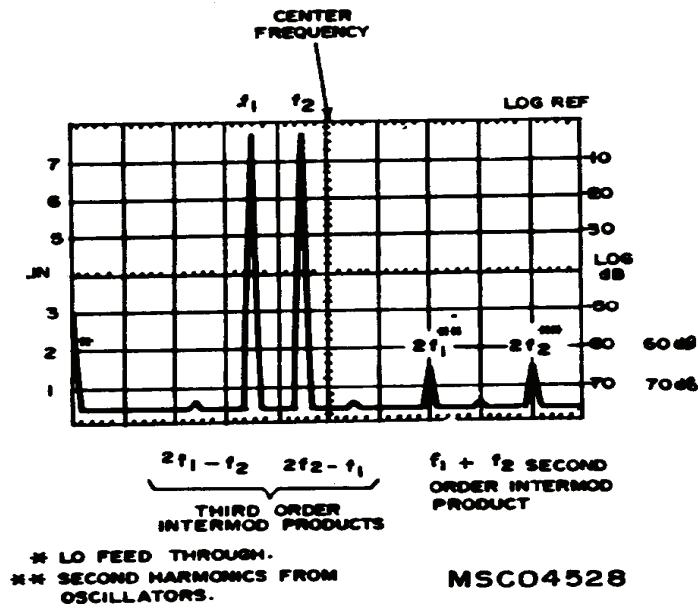

Figure 17. Intermodulation distortion products.
(4) Adjust function generator no. 2 frequency for 70 kHz at 3 mV.
(5) Adjust signal generator frequency for 90 kHz at amplitude equal to that set in (4) above.
(6) Carefully adjust amplitudes of function generator no. 2 and signal generator so that both signal peaks are 3 dB below **LOG REF** graticule on display screen. The signals at 140 kHz ( $2f_1$ ) and 180 kHz ( $2f_2$ ) (fig. 17) are second order harmonics. Any second order intermodulation product (due to analyzer) will occur at 160 kHz ( $f_1 + f_2$ ). Any third order intermodulation products will occur at 50 kHz ( $2f_1 - f_2$ ) and at 110 kHz ( $2f_2 - f_1$ ). The intermodulation products should be below -70 dB graticule line.
(7) Repeat technique of (4) through (6) above with function generator no. 2 at a frequency of 1.7 kHz and signal generator at a frequency of 2 kHz.
(8) Position **SCAN WIDTH PER DIVISION** switch to **500 Hz** and **BANDWIDTH** switch to **30 Hz** for model 8552B or **50 Hz** for model 8552A. Set **SCAN WIDTH** to **0-10f**.
(9) Adjust function generator no. 2 and signal generator controls to set both signal peaks 3 dB below **LOG REF** graticule on display screen. The signals at 3.4 kHz ( $2f_1$ ) and 4.0 kHz ( $2f_2$ ) are second order harmonics (fig. 17). Any second order intermodulation product (due to analyzer) will occur at 3.7 kHz ( $2f_1 - f_2$ ). Any third order intermodulation product will occur at 1.4 kHz ( $2f_1 - f_2$ ) and at 2.3 kHz ( $2f_2 - f_1$ ). All intermodulation products should be below -60 dB graticule line.